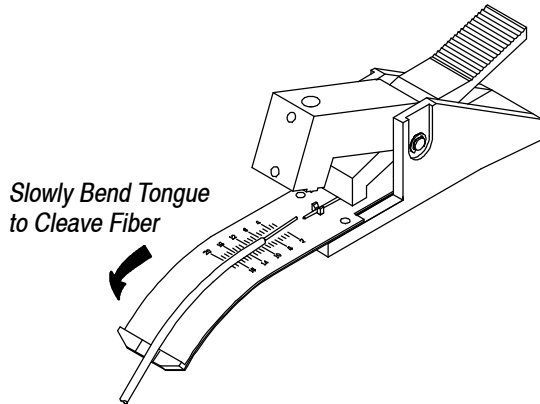

Figure 2
3. Maintaining the firm hold to keep the fiber in position, slowly bend, but do not twist, the tongue over your left thumb to cleave the fiber. DO NOT bend the tongue beyond a 45° angle. Refer to Figure 2.